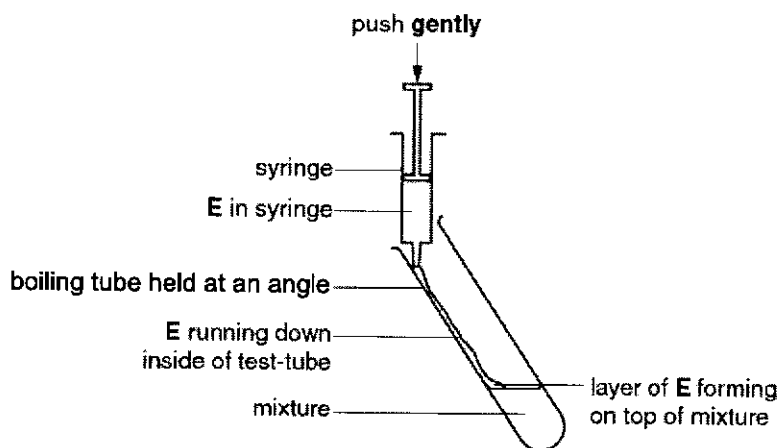

Fig. 1.2
- 9 Put 1.0 cm3 of **E** into the boiling tube, so that it runs down the side of the boiling tube and forms a layer on the surface of the mixture, as shown in Fig. 1.2.